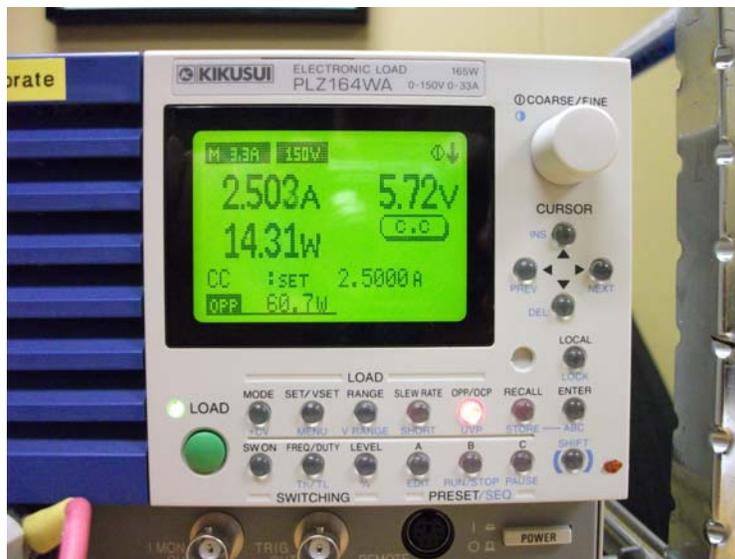

Figure 4. Kikusui PLZ164WA Setup
6. Engage the output of the Electronic Load (see Figure 4). If an electronic load is not available, a 15 W, 3 Ω resistor can be used.
- Added Figure 4 on page 4.